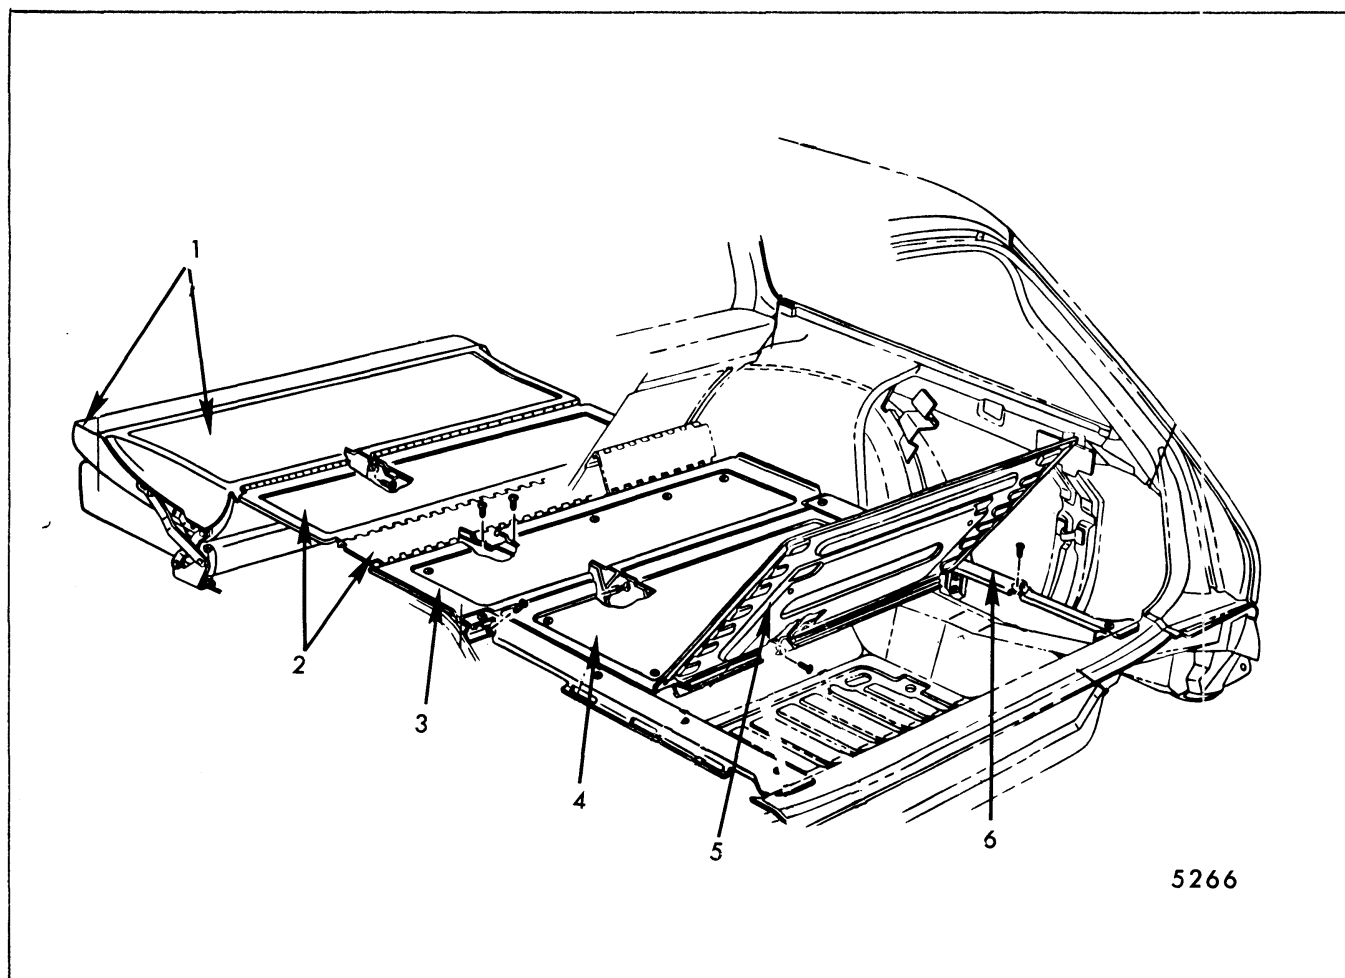

Fig. 9-72-Folding Seats and Load Floor Panels - "A" Body Three-Seat Styles
1. Figure 9-72 is typical of All "A" Body Three-Seat Styles.
### COMPARTMENT FLOOR PANEL ASSEMBLY (At Kick-Up) - All Styles (See Figs. 9-72, 9-73 and 9-74)